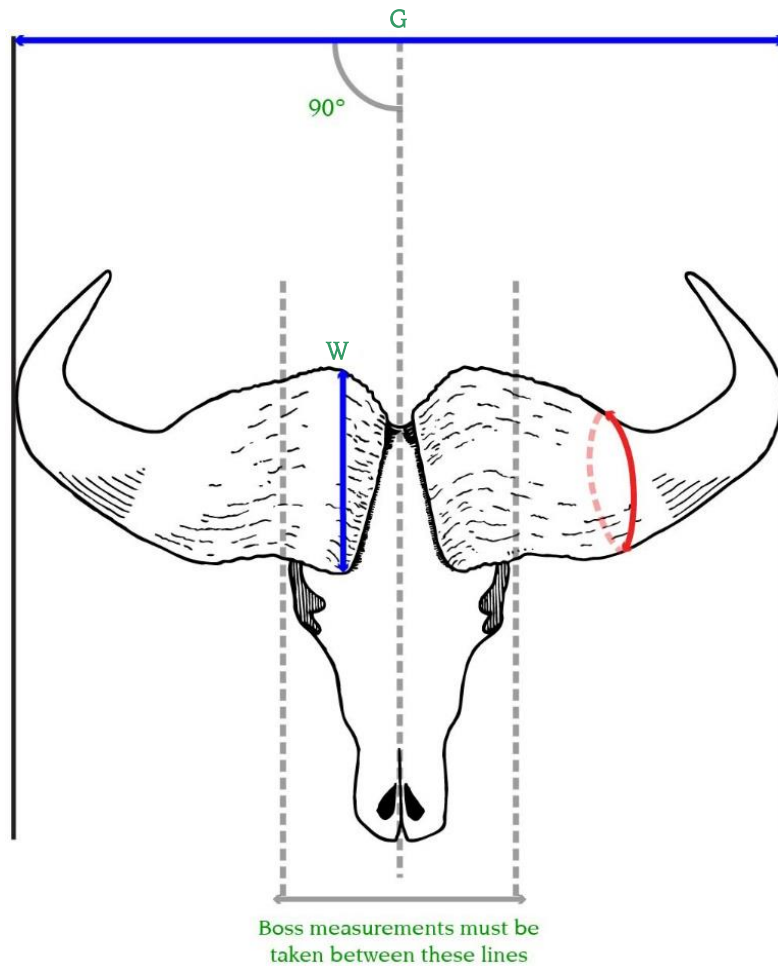

Figure 1 Cape Buffalo
2. Width of Boss. Using a tape measure, measure the boss of each horn at its greatest width; this must be taken parallel to the axis of the horn. (Figure 1) DO NOT measure "green" or "soft" boss material.